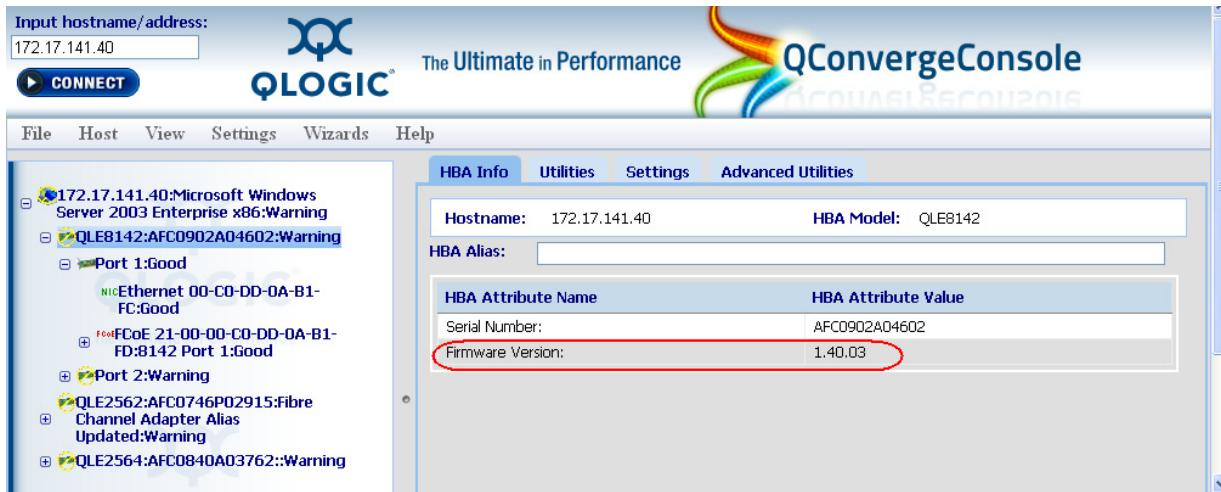

Figure 3-47. Displaying the Adapter Firmware Version
2. Select the port QLogic 8100 Series Adapter for which to determine the installed firmware version. The **HBA Info** tabbed page identifies the firmware version (Figure 3-47).